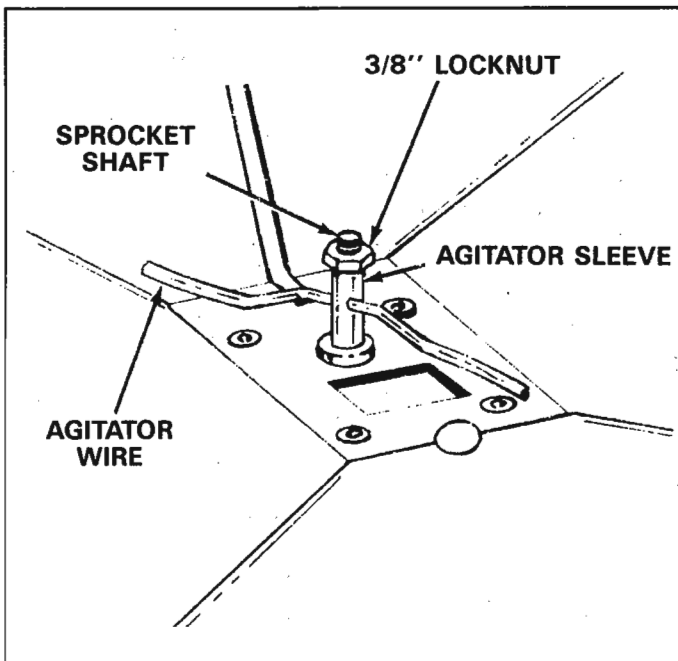

FIGURE 18
4. If agitator wire becomes damaged or worn it can be replaced. Loosen 3/8" lock nut on the top of sprocket shaft until agitator wire is free. Remove old agitator wire from hole in agitator sleeve and replace with new agitator wire. Position agitator wire so that sprocket shaft turns freely and tighten 3/8" lock nut on top of sprocket shaft. See figure 18.